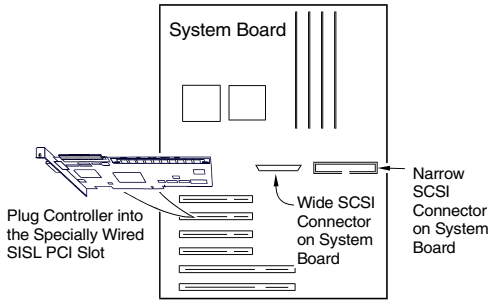

Figure 7. Plugging the AcceleRAID into a Prewired SISL PCI Slot
3. Plug the AcceleRAID controller into the specially prewired SISL PCI slot. See the documentation provided with your system board to locate this special PCI slot (see Figure 7).